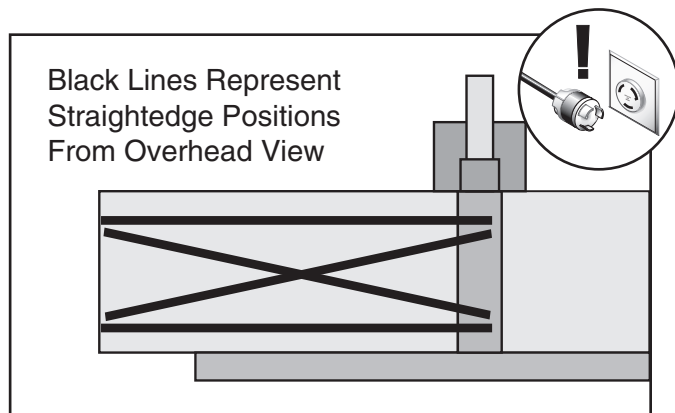

Figure 58. Straightedge positions for verifying if outfeed table is parallel with cutterhead.
3. Place straightedge on outfeed table so it hangs over cutterhead in one of the positions shown in **Figure 58**.
5. Continue placing straightedge in remaining positions shown in **Figure 58**. In each position, feeler gauge measurement should be nearly identical.